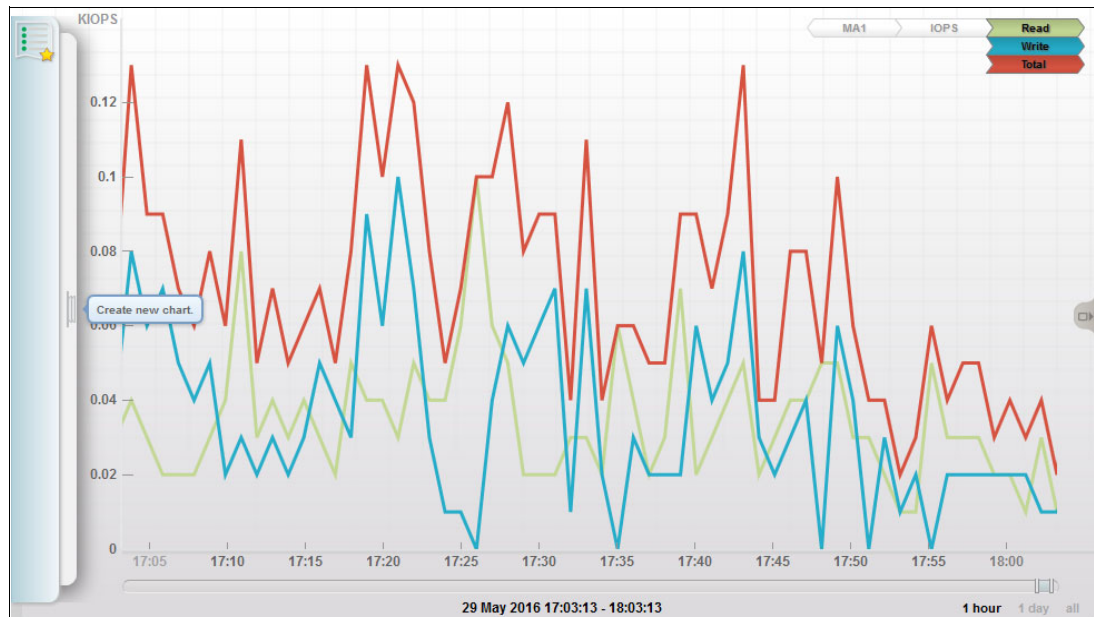

Figure 11-108 Array performance graph
4. Draw the graph, which is shown in Figure 11-108.